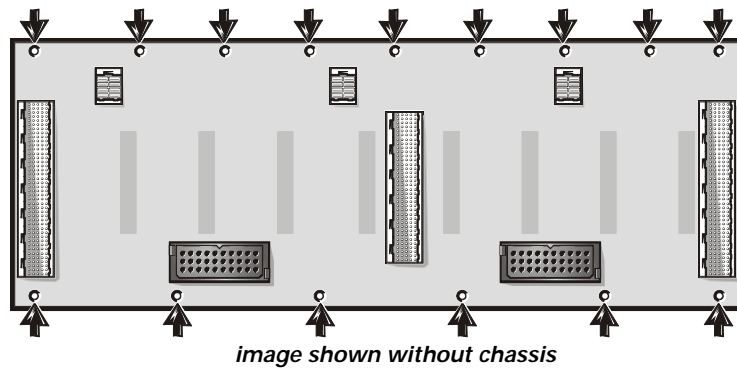

Figure 10. Screw Location
1. Looking in the rear of the storage system, locate the fifteen screws that secure the two halves of the chassis together. There are nine across the top and six across bottom of the backplane board (see Figure 10).